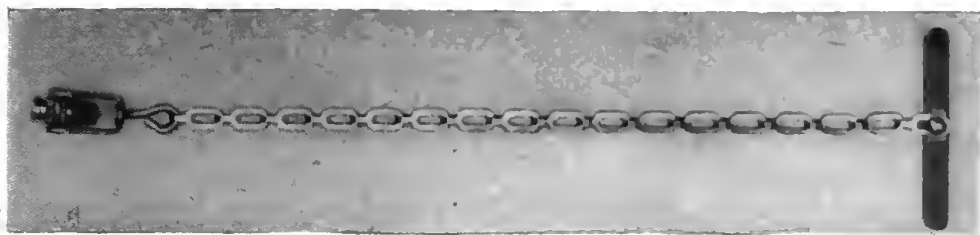
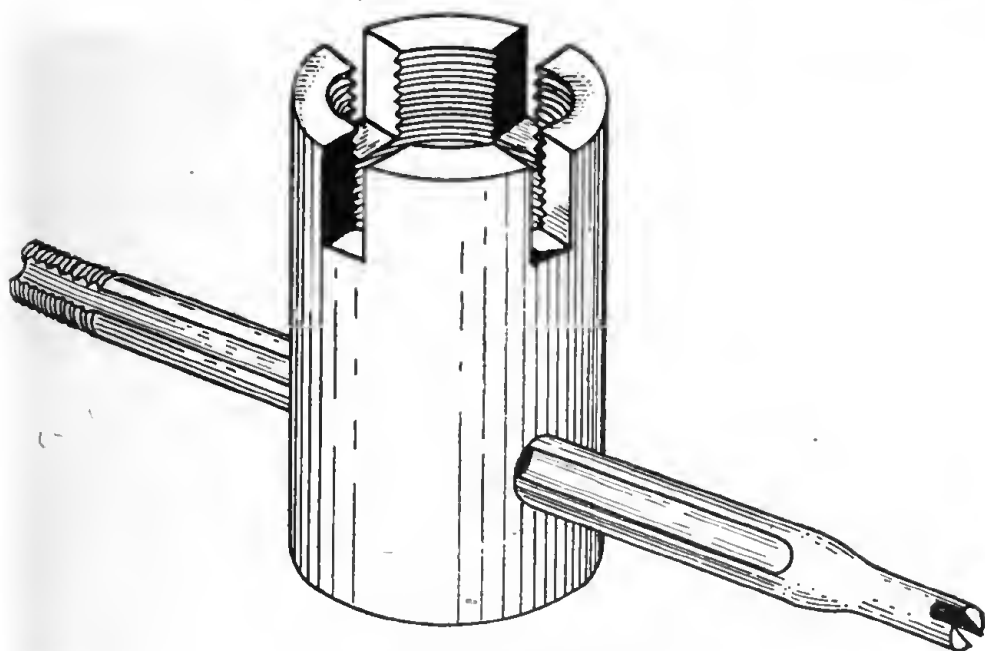

Figure 49. Valve-stem fishing tool.
Figure 50. Valve repair tool.
c. VALVE-STEM FISHING TOOL. (1) The valve-stem fishing tool consists of a cap fastened to a chain with a small T handle on the other end of the chain. The cap is threaded to fit a valve stem. (See fig. 49.)
(2) When replacing tires on rims the valve quite often slips inside. Sometimes it is impossible to reach the valve stem without taking the tire off the rim again. If a valve-stem fishing tool is fastened on the valve stem after the stem is inserted into the hole in the rim, the valve stem cannot get lost. The handle of the fishing tool is too large to go through the hole in the rim. After the tire is on, the valve can be pulled into place with the valve-stem fishing tool. Care should be exercised to prevent putting an excessive strain on the inner tube when pulling the valve stem into place.
d. VALVE REPAIR TOOL. For reconditioning air valves, the valve repair tool shown in figure 50 is used. The tap is used on the inside